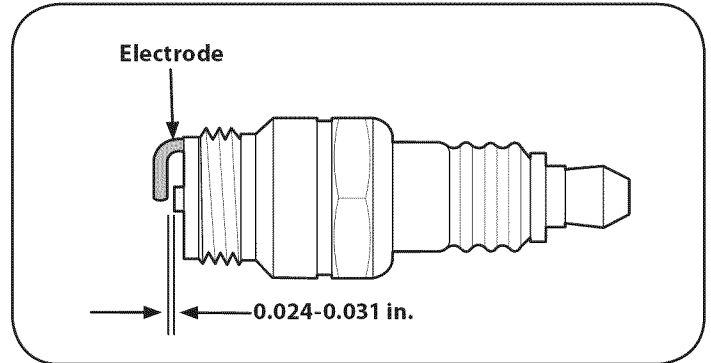

Figure 19
3. Measure the plug gap with a feeler gauge. Correct as necessary by bending side electrode. See Figure 19. The gap should be set to 0.024-0.031 in.